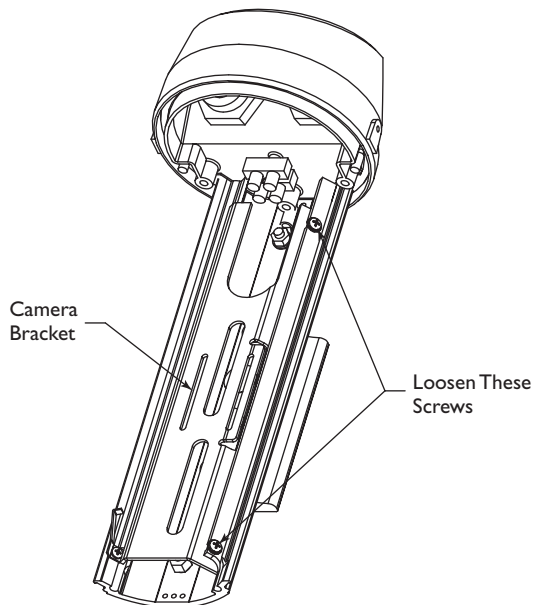

Figure 3 Removing the Camera Bracket
1. Loosen the two screws holding the camera bracket to the base. It is not necessary to remove them completely. See FIGURE 3.